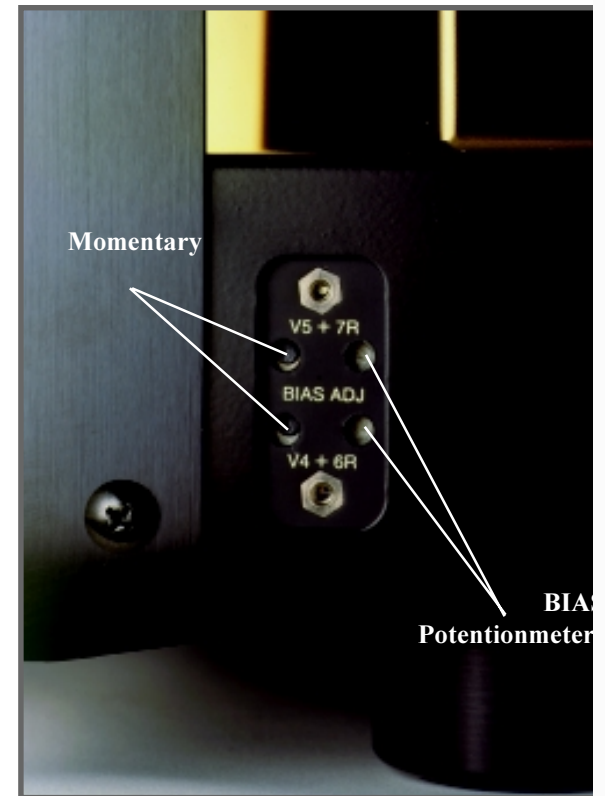

Figure 17
5. Facing the Right Side of the MC2000 press and hold in the momentary push-button for V5+7 R, and at the same time carefully adjust the BIAS Potentiometer V5+7 R for a MC2000 Right Meter indication centered between .13 and 1.3. Refer to figures 17 and 18.